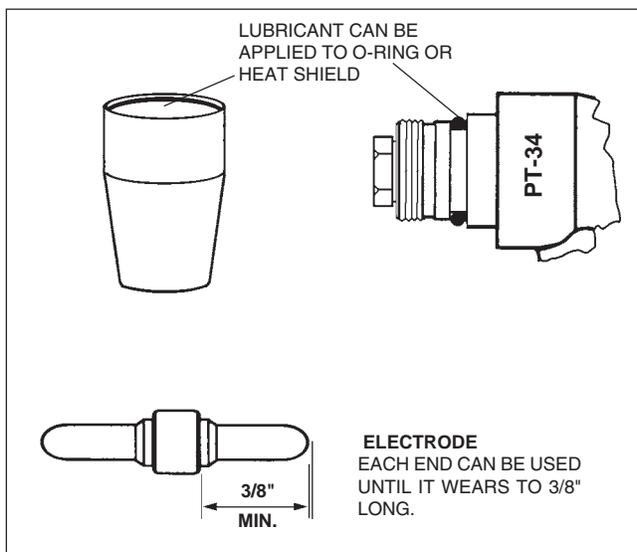

Fig. 6.3 - O-ring and Electrode Maintenance
Do not continue to use one end allowing it to erode to a length shorter than 3/8-in. as shown in Figure 6.3. The electrode opens the gas flow check valve. If one end is continually used, it will be too short to open the valve when reversed.
4. Apply a small amount of lubricant P/N 17672 to the heat shield as shown in Figure 6.3 or to the O-ring. Check O-ring for damage whenever the shield is removed. Replace if necessary. (O-ring P/N 950790 is also supplied in spare parts kit.)